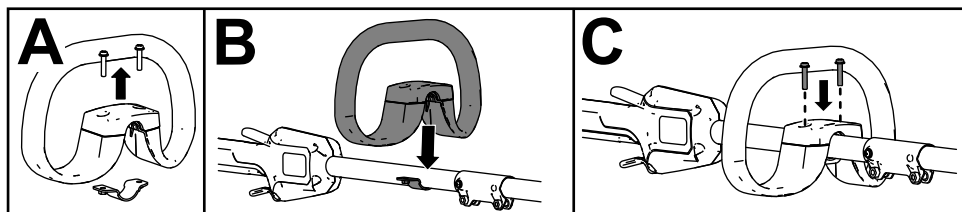

Figure 4
1. Using a Phillips head screwdriver, separate the auxiliary handle from the handle plate by removing the 2 screws (A of Figure 4).
2. Line up the auxiliary handle with auxiliary handle plate on the trimmer handle (B of Figure 4).
3. Secure the auxiliary handle to the handle plate with the 2 previously removed screws (C of Figure 4).
3. Secure the guard onto the base of the trimmer with the 2 socket head screws, 2 washers, and 2 spacers previously removed (C of Figure 4).